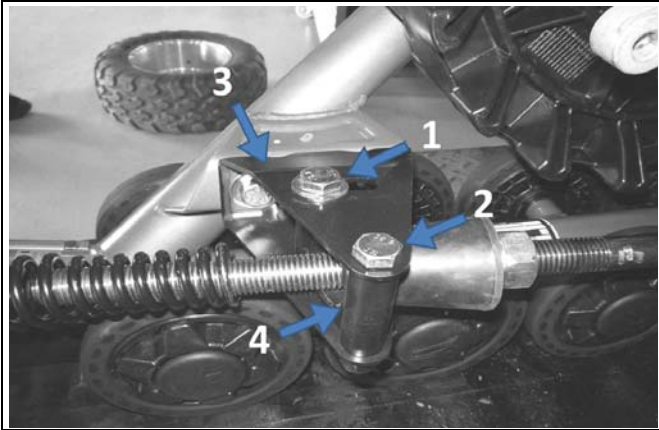

Figure 9
- Loose the bolts (1) and (2) of the bracket anti-rotation (3) to allow at the anti-rotation retainer (4) to rotate on its axis. (See Figure 9).